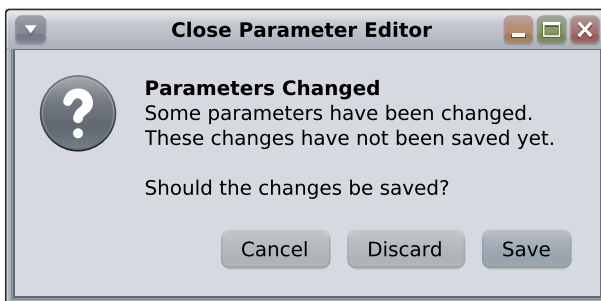

Figure 1.50: Dialog Parameters Changed
- ▶ The editor for the selected adjustment is opened, if no other adjustment is currently edited. If another adjustment is currently edited and has been modified, a dialog (see [Figure 1.50 \[p 68\]](#)) is displayed. The dialog allows to save or discard the modifications for the currently edited adjustment or to cancel the attempt to edit the new adjustment.